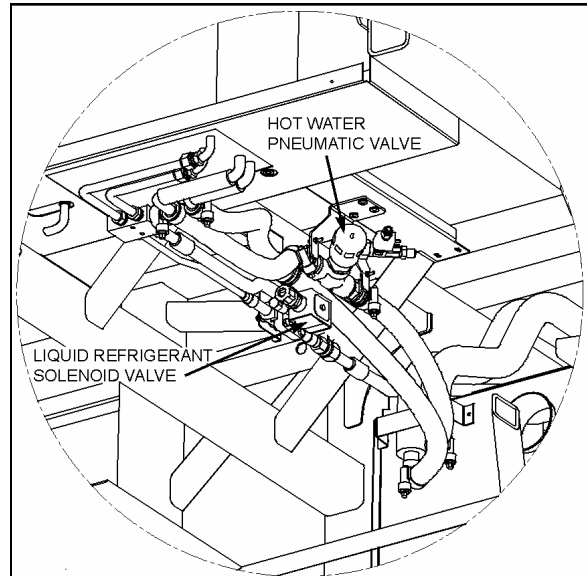

FIGURE 42: CEILING OF THE SPARE WHEEL COMPARTMENT
2. Locate the normally open water pneumatic valve on the ceiling of the spare wheel compartment (Fig. 42), move the pilot-solenoid valve red tab to close the valve.